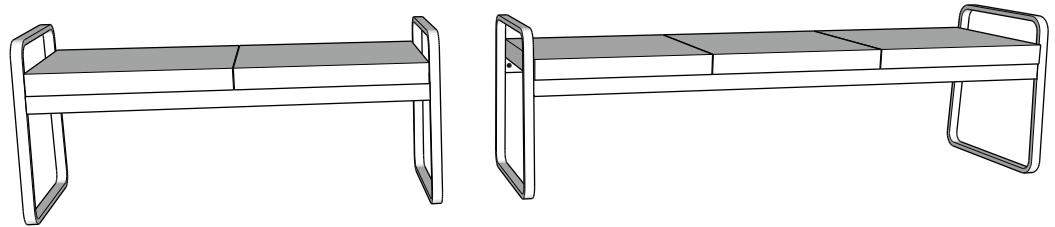

Fig 1
2. Connect H-frame to leg frames using 1/2" Allen bolts, as shown in figure 1. Keep bolts slightly loose for now.